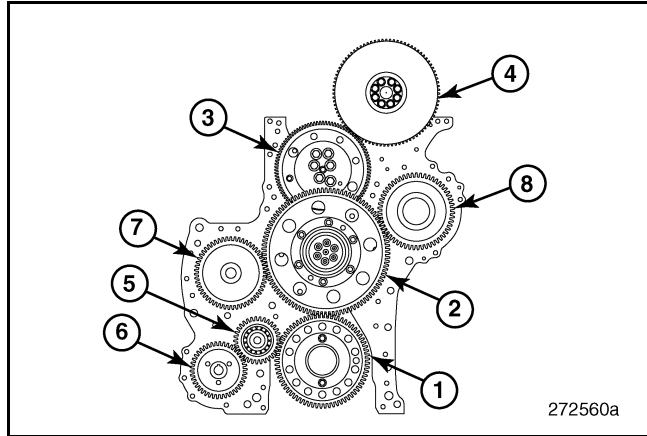

Figure 318 — Adjustable Idler Gear
3. Assemble the adjustable idler gear (item 3 in Figure 318), hub, bushing, thrust washer and fasteners on the timing gear plate. Hand tighten the fasteners.